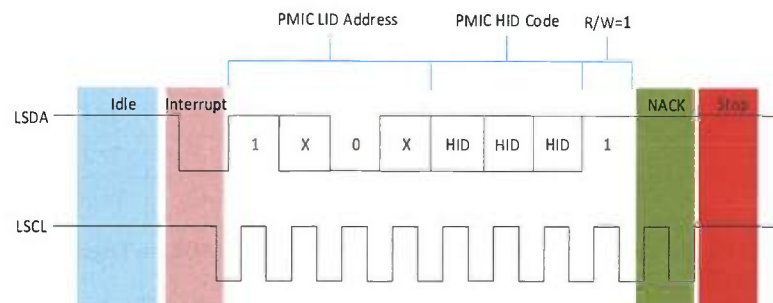

Figure 26 — PMIC Requests Interrupt; Host NACK followed by STOP
- The Host sends NACK on the 9th bit as shown in Figure 26 followed by a STOP command. In this case, the PMIC device does not transmit the IBI payload and waits for the next opportunity to request an interrupt. At this point, though Host sent an NACK, it does have a knowledge of which PMIC device sent the IBI request. The PMIC device retains the IBI status flag (Table 96, “Register 0x0A” [1] = ‘1’) and Pending Interrupt Bits [3:0] = ‘0001’.